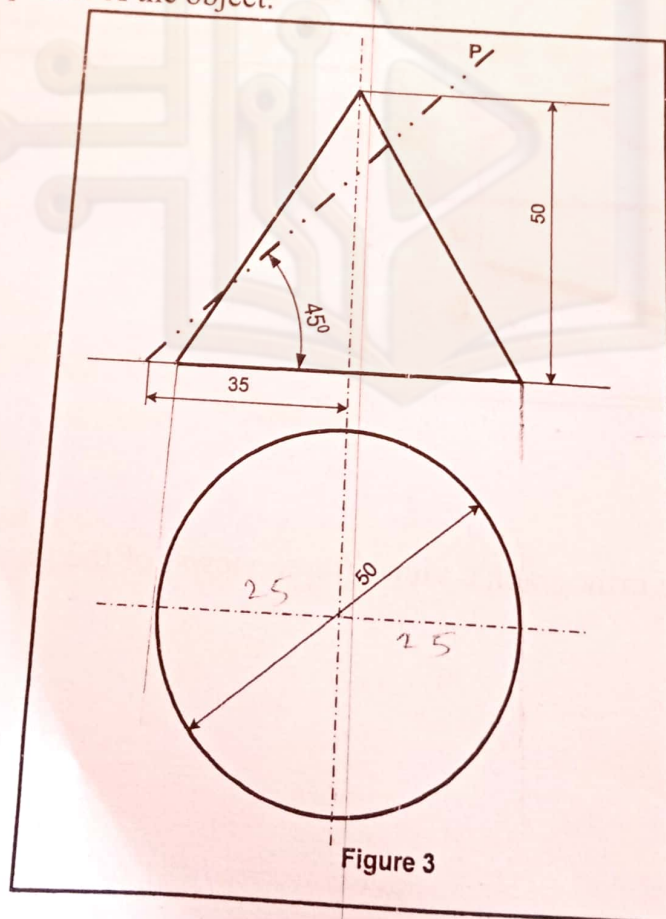

Figure 3
4. A right circular cone is cut by a plane **P** as shown in figure 3. Find the true shape of the section and also construct the lateral surface development of the object.